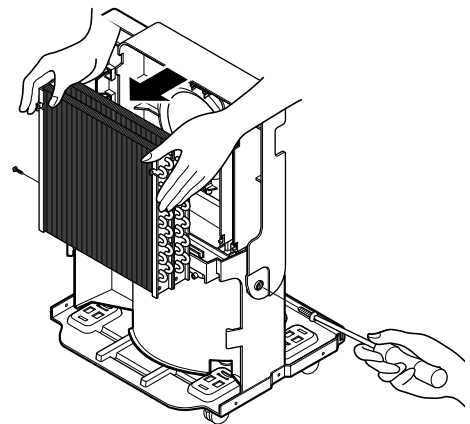

Figure 22
4. Unfasten 2 screws that secure the shroud on the sides and then lift shroud from the drain pan. (See Figure 22)